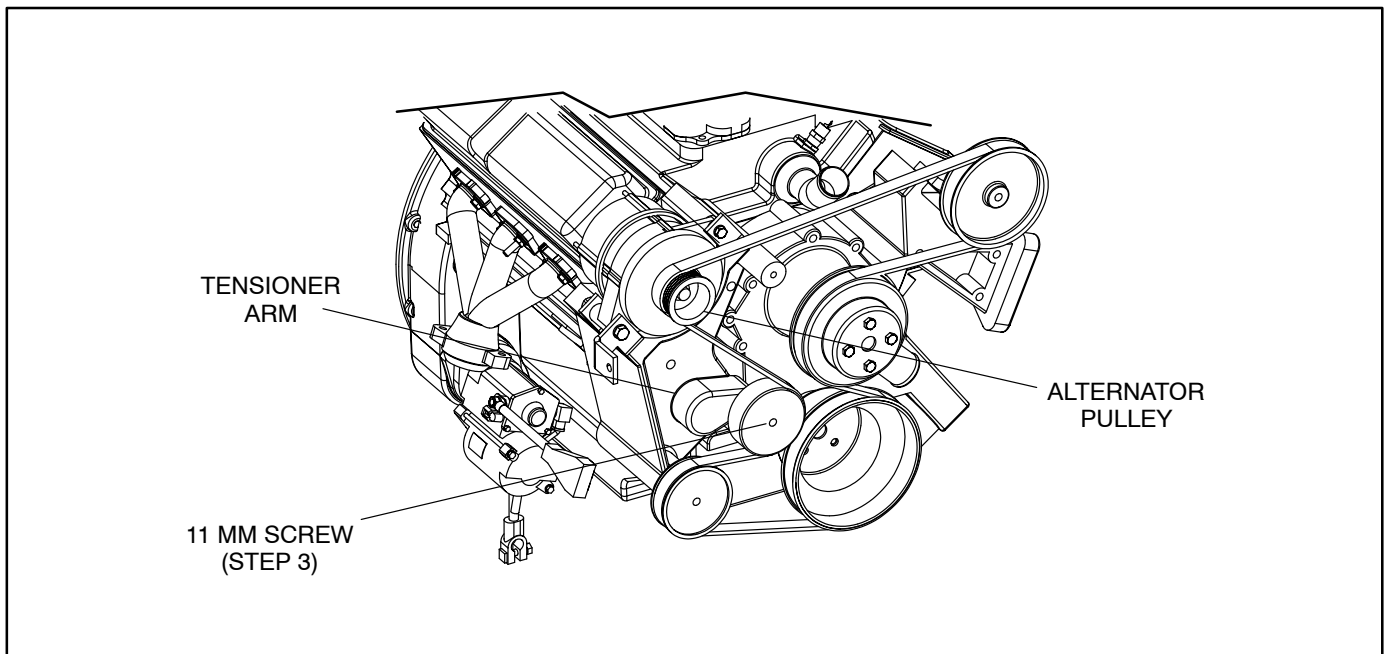

FIGURE 5-6. SERPENTINE BELT REPLACEMENT
3. Place a 15 mm socket onto the tensioner arm (Figure 5-6). With handle of ratchet extended horizontally to the right of the tensioner arm, slowly lift up on the ratchet handle until the spring tension is relieved. Remove serpentine belt.